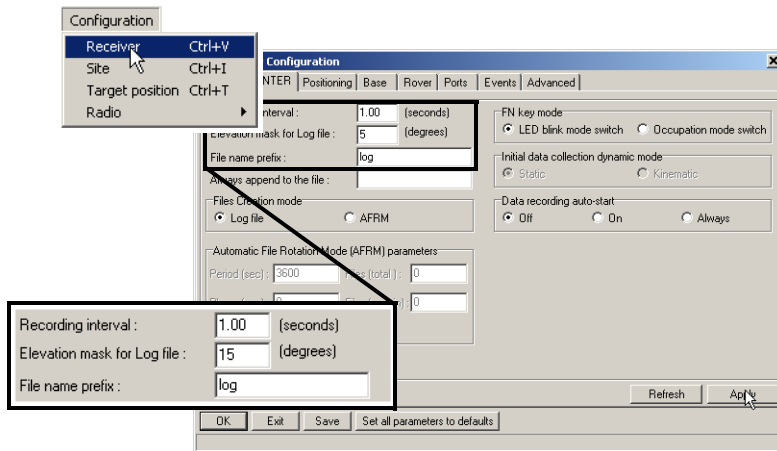

Figure 2-11. Receiver Configuration – MINTER Tab
2. Once connected, click **Configuration ▶ Receiver** (Figure 2-11).
3. Click the **MINTER** tab, configure the following settings, and click **Apply** (Figure 2-11).